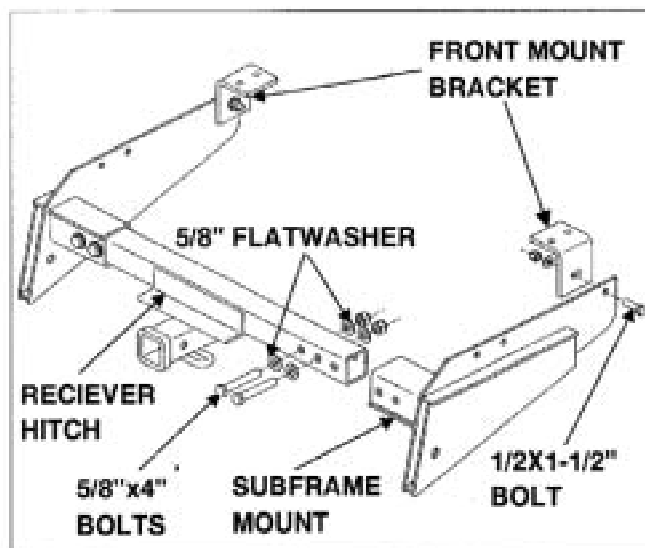

Figure 5
2. Install two 5/8" x 4" grade 8 bolts per side (four total) and washers (one on each side of the crosstube). See Figure 5.
3. Position front brackets inside of subframe and retain with one 1/2" x 1-1/2" grade 5 bolt, 1/2" flat washer and 1/2" locknut. See Figure 5.